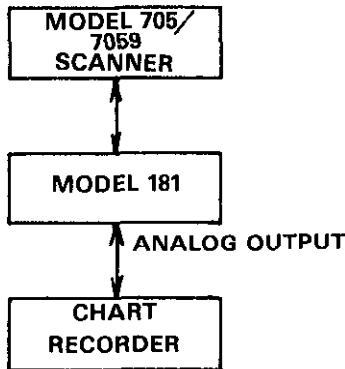

Figure 3. Test Set Up for Thermal Offset Test
- 181 should be connected to the chart recorder and a recording made to establish a baseline for the voltage measurements (see Figure 3).